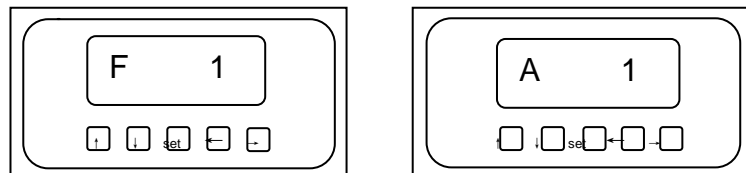

Fig. 5
4.1.1 The four keys on keyboard used as direction browsers and accept current selection. They are shown at *Fig. 5*.